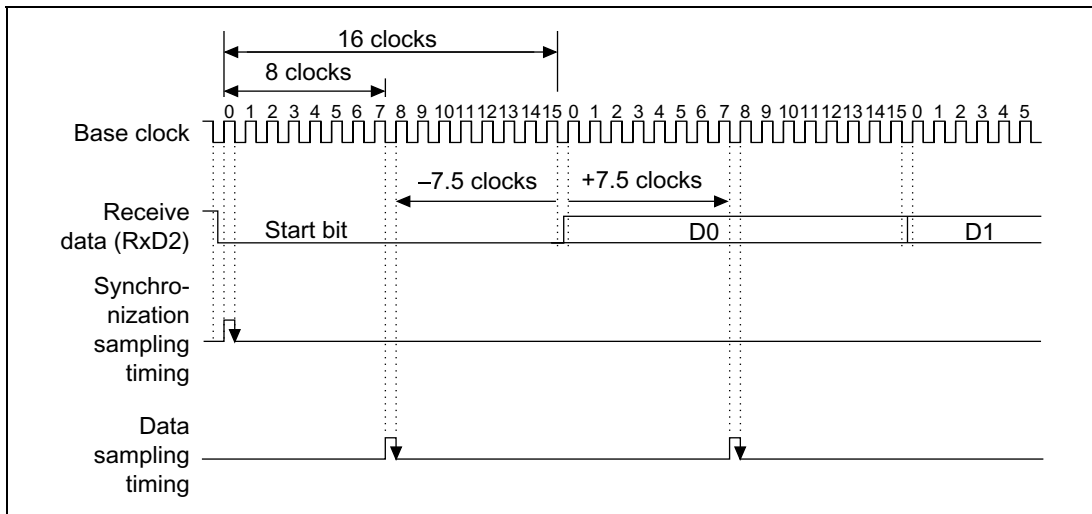

**Figure 19.12 Receive Data Sampling Timing in Asynchronous Mode**
6. **Receive Data Sampling Timing and Receive Margin:** The SCIF operates on a base clock with a frequency of 16 times the transfer rate. In reception, the SCIF synchronizes internally with the fall of the start bit, which it samples on the base clock. Receive data is latched at the rising edge of the eighth base clock pulse. The timing is shown in figure 19.12.